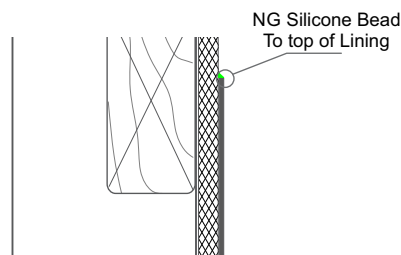

Fig 6
- 13 - **Silicone.** In line with BRANZ recommendation, we suggest that silicone be applied to the top edge of the acrylic liner. This is to prevent any moisture penetrating down behind the lining. See Fig 6 below.